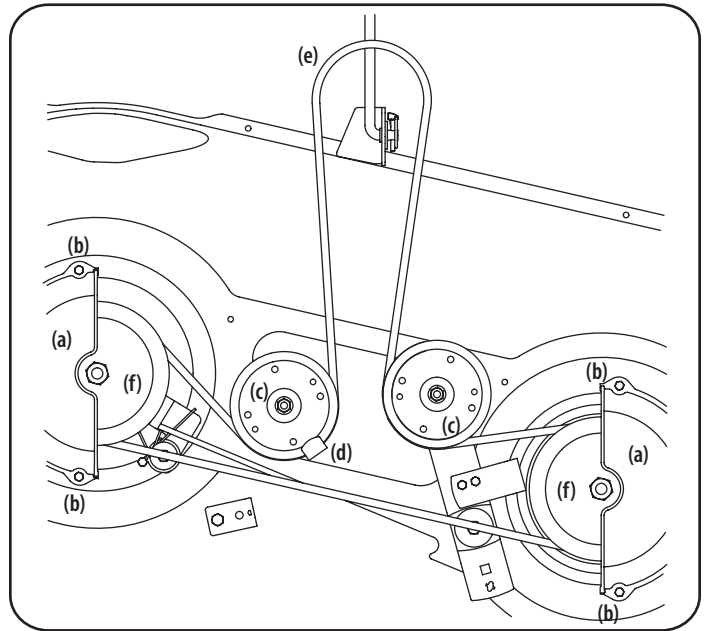

Figure 31
2. Remove the belt covers (a) by removing the hex washer screws (b) that fasten them to the deck. See Figure 31.
4. Carefully remove the deck belt (e) from around the two spindle pulleys (f) and the two deck idler pulleys (c). See Figure 31.
5. To place the new belt, begin by routing the belt around the two spindle pulleys (f). Route the belt around the two deck idler pulleys (c). Retighten the left idler pulley hex nut loosened in step 3. Remount the belt covers removed (a) in Step 2. See Figure 31.
6. Re-install the deck, making sure the belt remains routed around the pulleys as instructed. See Figure 31.